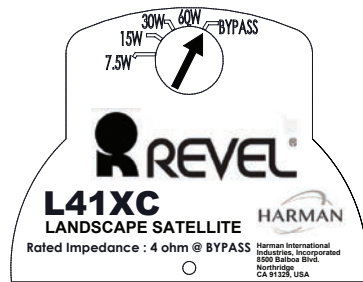

Figure 20
- Use a flathead screwdriver to change the transformer tap to BYPASS as shown in Figure 20.